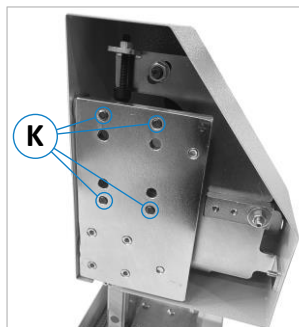
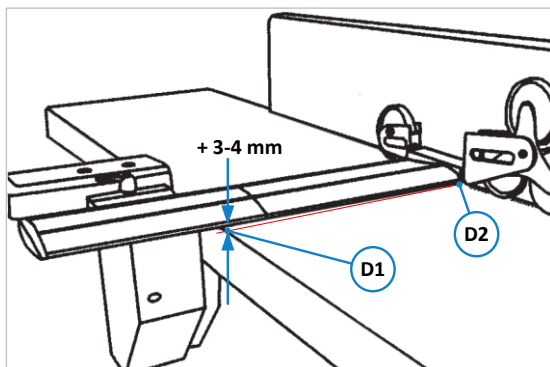

Figure 3: Adjustment (K)
Figure 5: Bend compensation
- In this state, the front area (D1) of the bridge must be 3 - 4 millimetres higher to the table than the rear area (D2) at the wheels (see ⇒ Figure 5). The adjustment for this is also made using the grub screws (K) shown in ⇒ Figure 3.